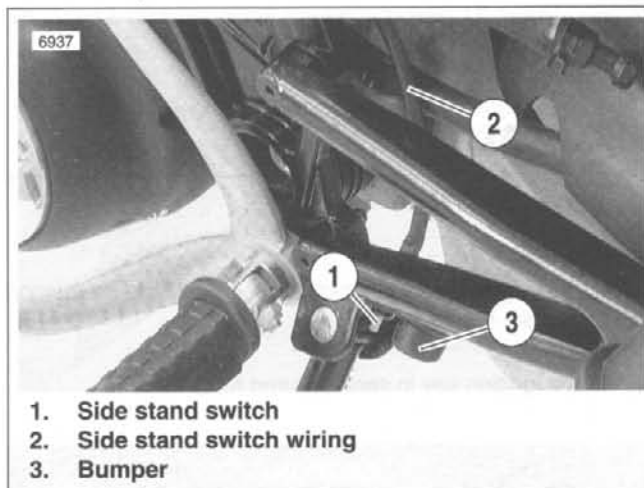

Figure 2-175. Side Stand Switch (1999 Model Shown)
See Figure 2-175. The side stand activates the side stand switch (1) which is part of the starter interlock system. See 7.5 STARTER INTERLOCK for more information.